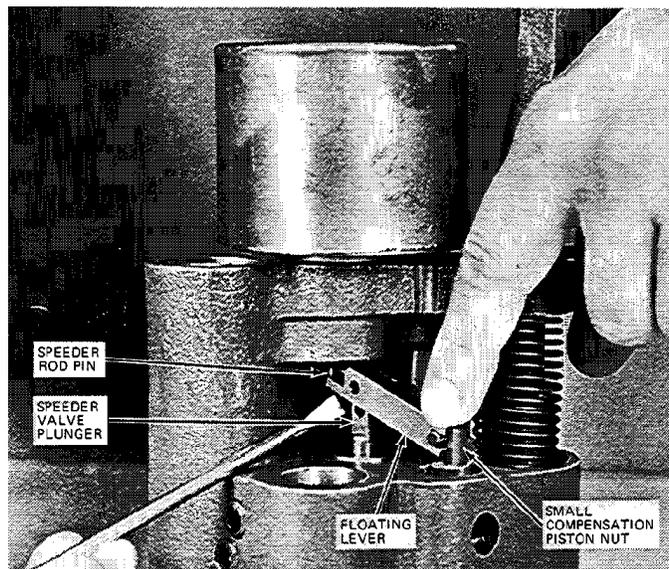

Figure 5-3. Removal of Ballhead from Controlet
2. Lift the inner end of floating lever (306) while pushing downward on small compensation piston nut (347). See Figure 5-3.
4. Lift ballhead (307 through 320) out of controlet (377).